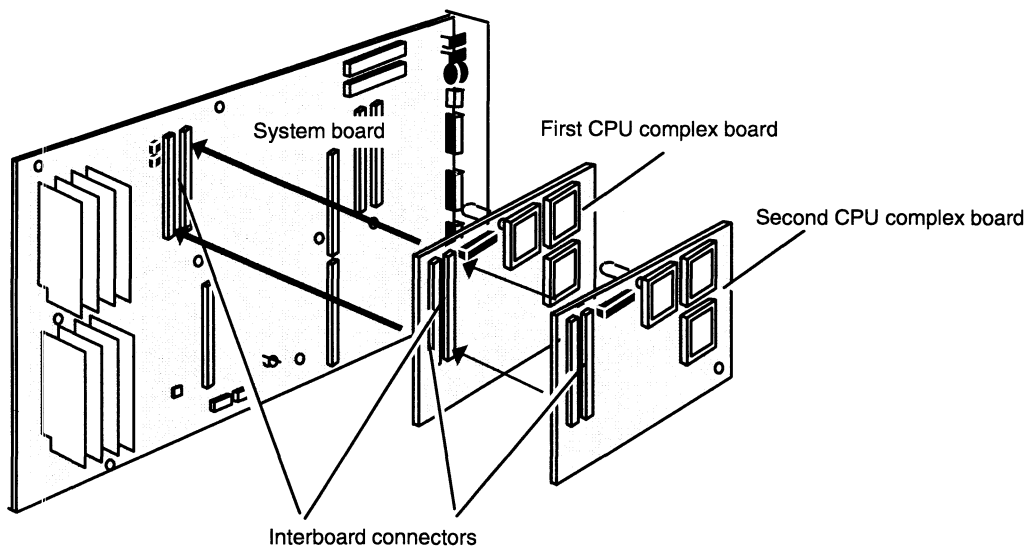

Figure 9-8 Joining the Interboard Connectors
1. Align the interboard connector on the CPU complex board with the interboard connector on the board beneath it, as shown in Figure 9-8, and press them together. If you cannot press the connectors together, make sure that the connectors are aligned correctly, and then try pressing them together again.